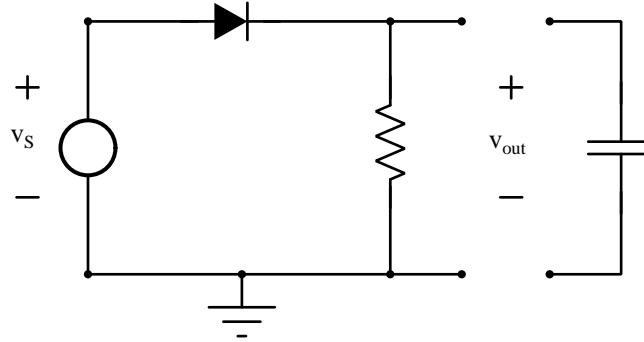

Figure 1.1: Diode half-wave rectifier and envelope detector.
(Spice Simulation) In Figure 1.1, a 1N4001 diode is used and $R = 1\text{ k}\Omega$. Without the capacitor connected, this is a half-wave rectifier circuit. With the capacitor connected, this is an envelope detector circuit.
Instantiate two subcircuits as in Figure 1.1, without the capacitor, consisting only of the diode and the resistor, connected as such. Again let $v_s(t) = A \sin(2\pi ft)$ Volts, where $A = 2$ and $f = 1\text{kHz}$. We will call circuit 1 the circuit with $v_s(t)$ applied to one of the subcircuits. We will call circuit 2 the circuit with $v_s(t)$ applied to the other subcircuit, and with the capacitor connected in parallel to the resistor as in Figure 1.1. Now you will run a transient simulation for both circuits simultaneously. You will plot in the same figure the input voltage $v_s(t)$ and $v_{\text{out}}(t)$ for both circuit 1 and 2. Do this simulation for the following values of the capacitor C : 470 nF, 1 μF , and 10 μF .
The students are going to complete the following tasks in the lab. Please refer to Figure 1.1. Note that the tasks should be done in the order described. The components are model 1N4001 for the diode, $R = 1 \text{ k}\Omega$, and $C = 1 \mu\text{F}$.
Connect the circuit as given in Figure 1.1, without the capacitor. Let $v_s(t)$ be an adjustable DC power supply in series with a sinusoidal as in $v_s(t) = B + A \sin(2\pi f t)$ Volts. Let A be 100-200 mV and $f = 1 \text{ kHz}$. You are going to connect a DC power supply in series with the signal generator to produce this $v_s(t)$.
Connect the circuit as given in Figure 1.1, without the capacitor. Let $v_s(t) = A \sin(2\pi f t)$ Volts, where $A = 2$ and $f = 1 \text{ kHz}$. Note that $v_s(t)$ will be supplied by only the signal generator.
Connect the circuit as given in Figure 1.1, including the capacitor. Again let $v_s(t) = A \sin(2\pi f t)$ Volts, where $A = 2$ and $f = 1$ kHz.
2. What kind of arrangement is required in order to obtain the negative cycles of the AC source connected to the input from the output of the Figure 1.1 circuit when the capacitor is not connected.
4. In the half-wave rectifier structure (the case that the capacitor is not connected in the Figure 1.1 circuit) is it possible to get a similar output signal using a transistor instead of the diode component?. If yes, show how the transistor will be connected to circuit by drawing.